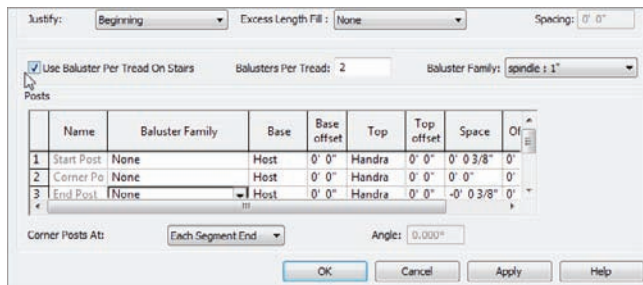

FIGURE 10.61 Specifying two balusters per tread and no actual posts
14. Just below the Main Pattern area is the Use Baluster Per Tread On Stairs option. Click it, as shown in Figure 10.61.
15. To the right, you will see the Balusters Per Tread field. Specify two balusters per tread (see Figure 10.61).
16. Change the Baluster Family to spindle 1", as shown in Figure 10.61.
17. In the bottommost field is the Posts category. Change each of the three posts to None. Your spindles are all you need (see Figure 10.61).